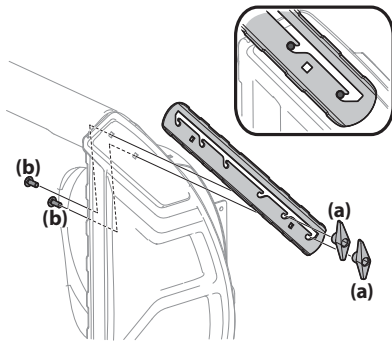

Figure 2-50
1. Remove two carriage bolts (a) and wing nuts (b) that secure each drift cutter, and remove them from the sides of auger housing. See Figure 2-50.
2. Turn the drift cutters around and position them as shown in Figure 2-50 to the outside of the auger housing.